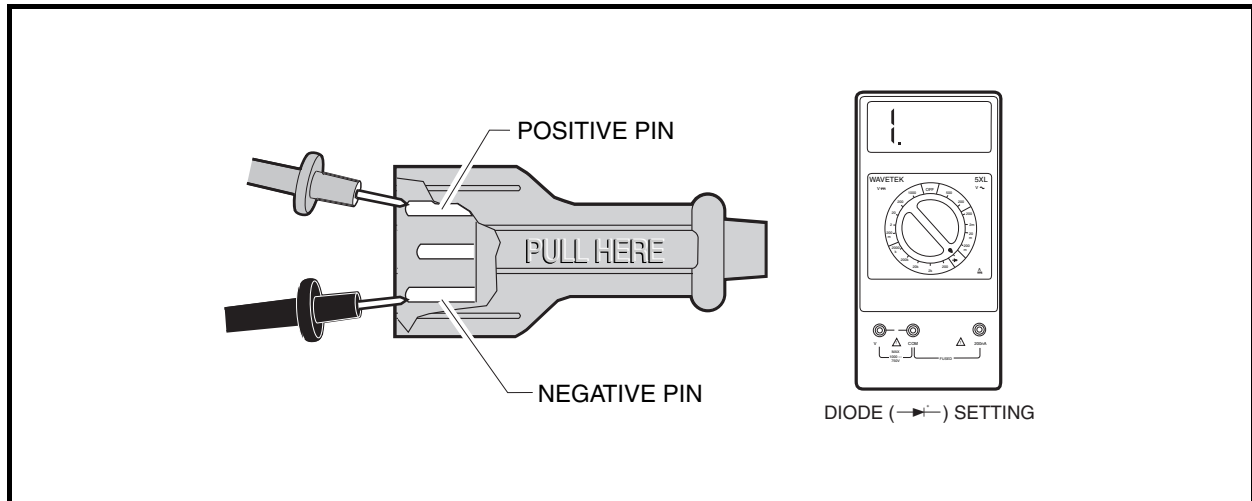

Figure 7-20 DC Plug Test
2. Using a multimeter set to the diode test function ($\rightarrow\text{}$), place the positive (+) probe of the multimeter on the pin marked positive (+) on the DC plug (**Figure 7-20, Page 7-22**). Place the negative probe (–) on the pin marked negative (–). The multimeter should indicate an overload (no continuity).